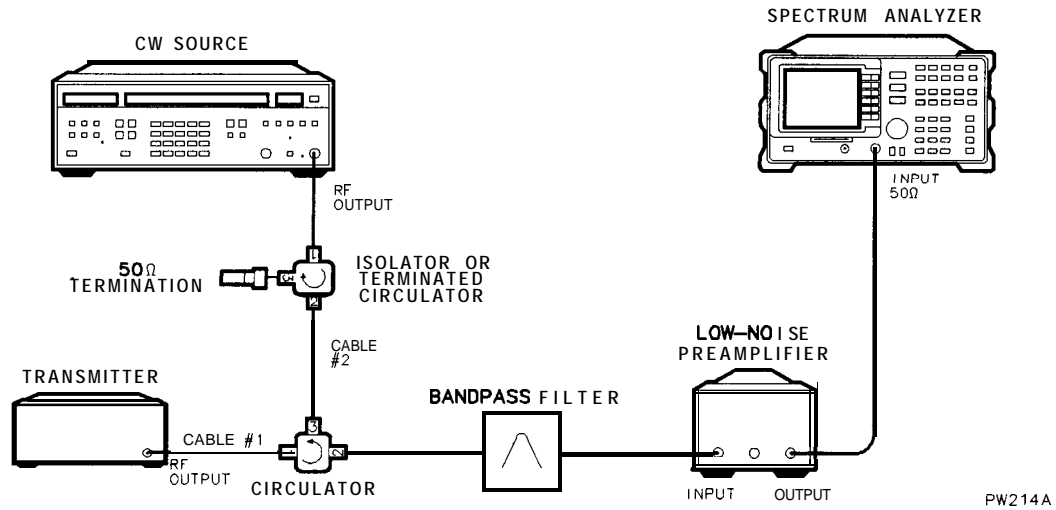

Figure 3-29. Test Setup for Intermodulation Attenuation - RX Rand
6. Read the text and make the test setup connections described in the displayed text. Refer to Figure 3-29 for the test setup.
For the test setup illustrated in Figure 3-29, the base station output power is reflected from the bandpass filter (BPF), through the circulator, and into the isolator/circulator at the output of the CW source. Make certain that this isolator/circulator is capable (rated) of dissipating the output power generated by the base station transmitter. Failure to supply an adequately rated isolator/circulator can damage the isolator/circulator or the CW source.